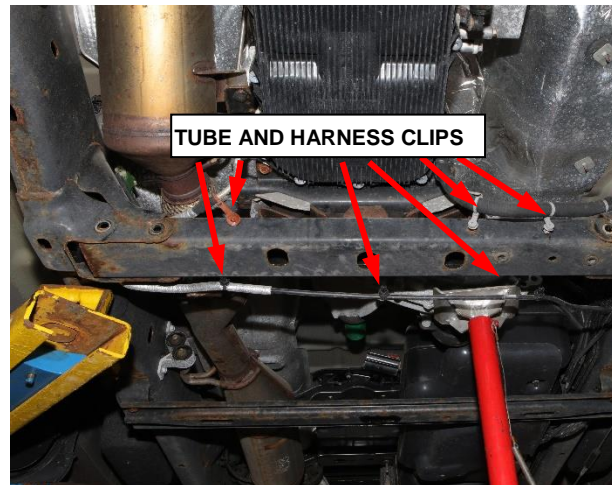

Figure 3 – Transmission Crossmember
73. Install the NOx sensor 1/2 module cover (1). Tighten the nuts to 8 N·m (71 in. lbs.) (Figure 3).
10. Release the push pin clips retaining the DEF tube and wiring harness to the transmission crossmember (Figure 3).